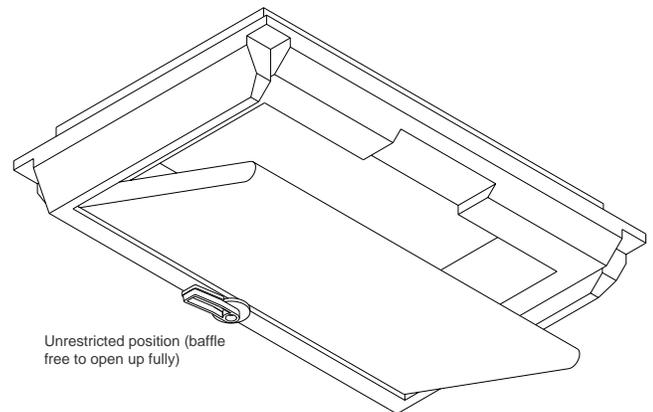

Figure 6 Standard C1 inlet (unrestricted) for normal operation
- (1) It supports the "hinged" edge of the baffle (see Figure 6), and